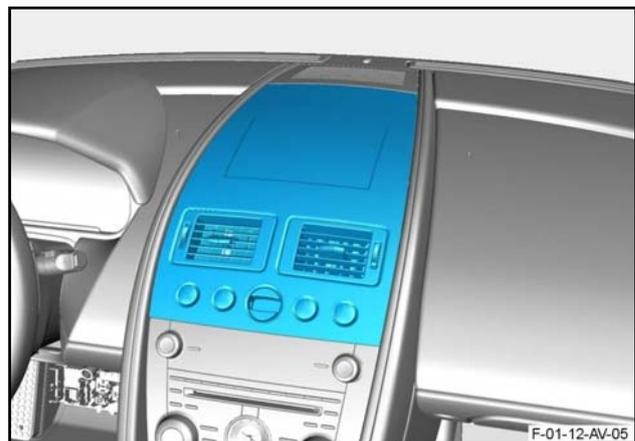

Figure 8
9. Remove the veneer bezel (Refer to Figure 8).